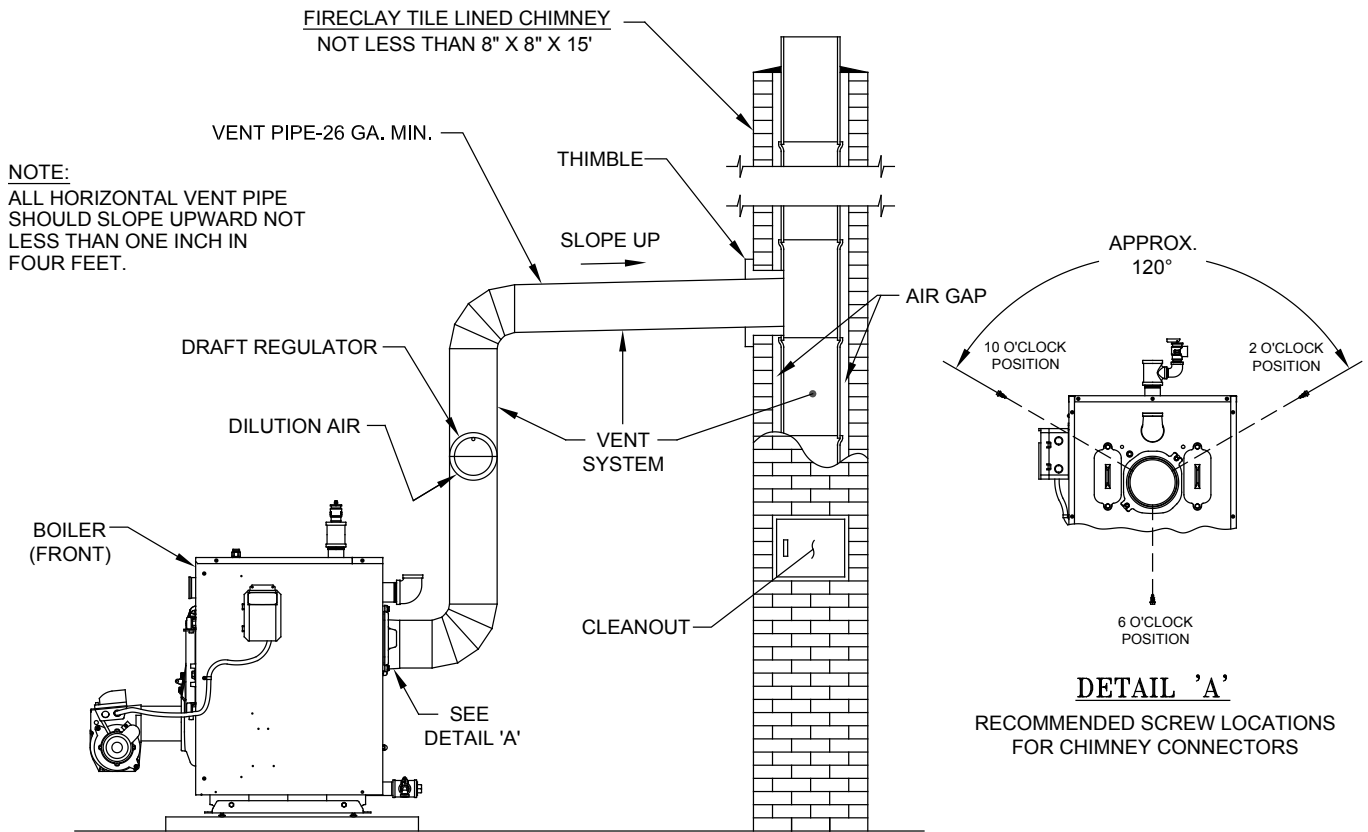

Figure 13: Recommended Vent Pipe Arrangement and Chimney Requirements
3. The FORCEOL can be vented into a fireclay tile-lined masonry chimney that meets requirements outlined in Paragraph 4 below. It can also be vented into a chimney constructed from type L vent or a factory built chimney that complies with the type HT requirements of UL 103. The chimney and vent pipe shall have a sufficient draft at all times, to assure safe proper operation of the boiler. See Figure 13 for recommended installation.
5. Draft Regulator – the draft regulator supplied with the boiler must be used with this appliance. Refer to Figures 13 and 14.
NOTE: Secure chimney connector to cast iron smokebox collar with three (3) #10 x ½" self drilling hex head TEK screws provided in miscellaneous parts carton. Locate screws around perimeter of connector as shown in Figure 13 and approximately ½" in from edge. Use drill with 5/16" hex bit to drive screws through connector and smokebox collar.